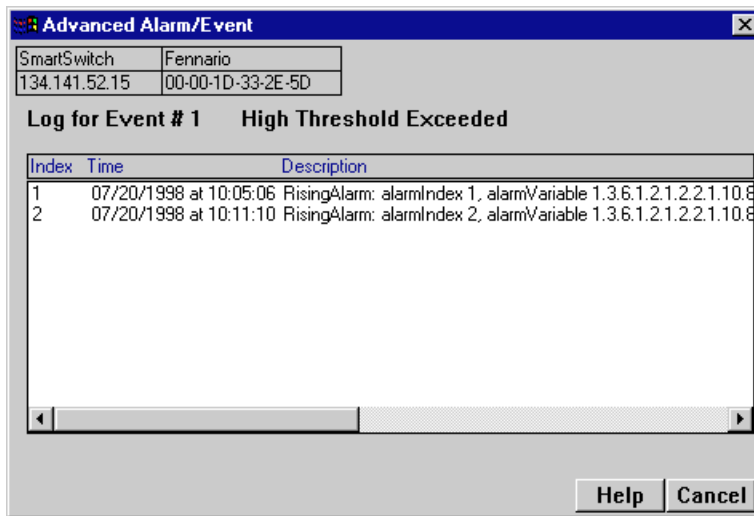

Figure 3-7. The Event Log Window
1. Highlight the event for which you wish to view the log, then click on the **Event Log** button at the bottom of the Advanced Alarm/Event List window; the Event Log window, Figure 3-7, opens.